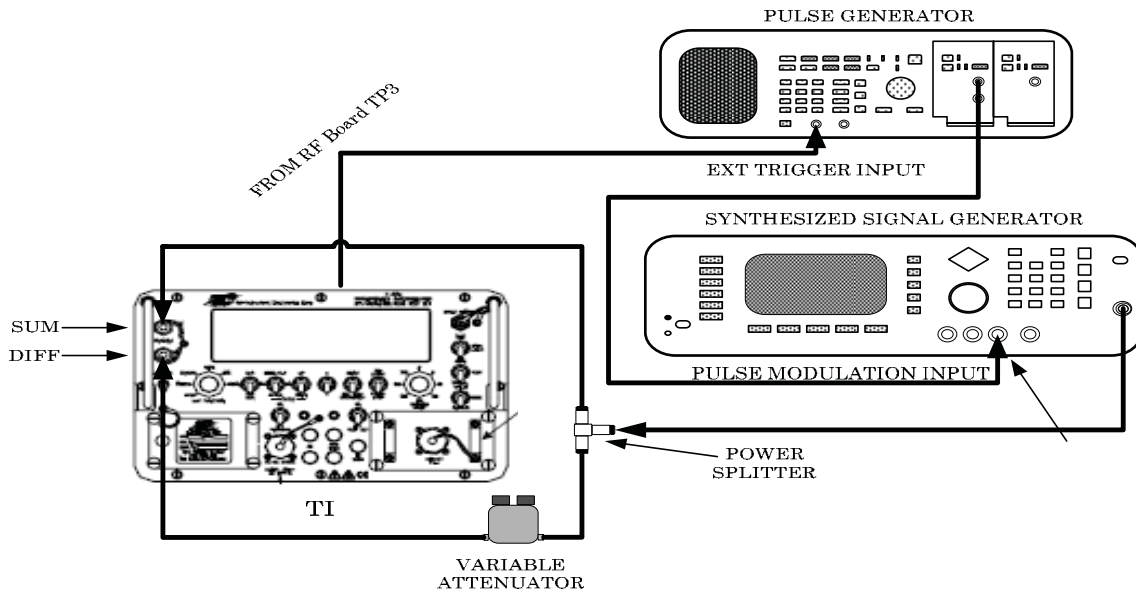

Figure 4. Receiver sum diff setup.
(40) Set the synthesized signal generator for 1090 MHz and amplitude at 0.0 ± 0.1 dBm into 50Ω termination and cables as measured from both ends of the splitter, one at a time, using spectrum analyzer. Annotate synthesized signal generator output power setting.
(41) Turn off TI and connect equipment as shown in figure 4 without variable attenuator installed in setup.
- (55) Set synthesized signal generator output to -15 dBm below setting noted in step (40) above.
- (56) Connect variable attenuator as shown in figure 4.
- (57) Set variable attenuator to 10 ± 0.2 dB.
- (58) The **=TURN=** message will flicker rapidly on and off. If not, perform **b (7)** below.
- (59) Set variable attenuator to 9 ± 0.2 dB.
- (60) The **=TURN=** message will remain on.
- (61) Set variable attenuator to 11 ± 0.2 dB.
- (62) The **=TURN=** message will be off and display 100% reply.